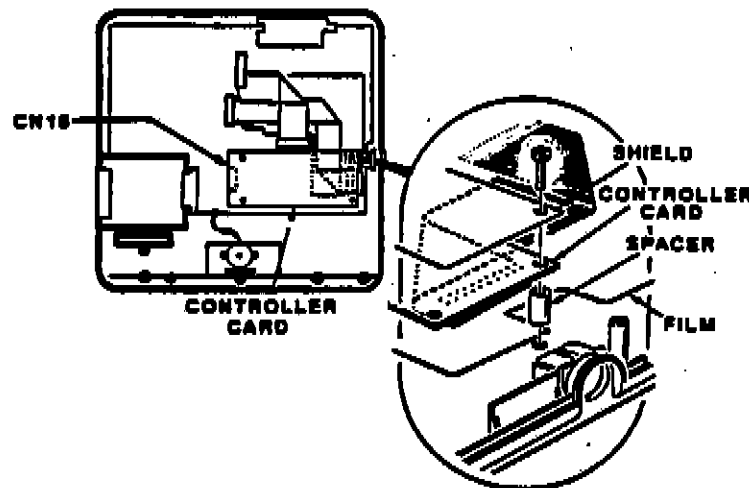

Figure 3-14. Controller Card and Ribbon Cables
Refer to Figure 3-14 for the following steps.
4. Observe the position of the film, ribbon cables, screw, spacer, controller card, and card shield, as shown in Figure 3-14. These items will have to be returned to these positions during reassembly.